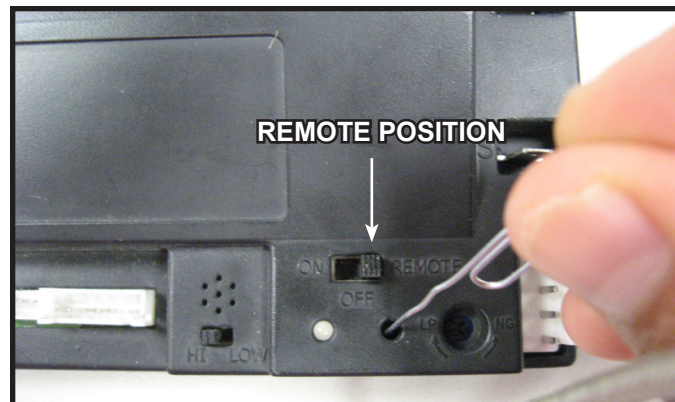

Figure 7. Programming RC300
- Verify the ON/OFF/REMOTE switch is in the REMOTE position. Green LED light will blink three times and wall switch will beep once 5 seconds later when ready. See Figure 7.
- Using a small item (such as a paper clip) press and release the LEARN button located near the ON/OFF/REMOTE switch. See Figure 7.
- Move switch to **OFF** (See Figure 7).